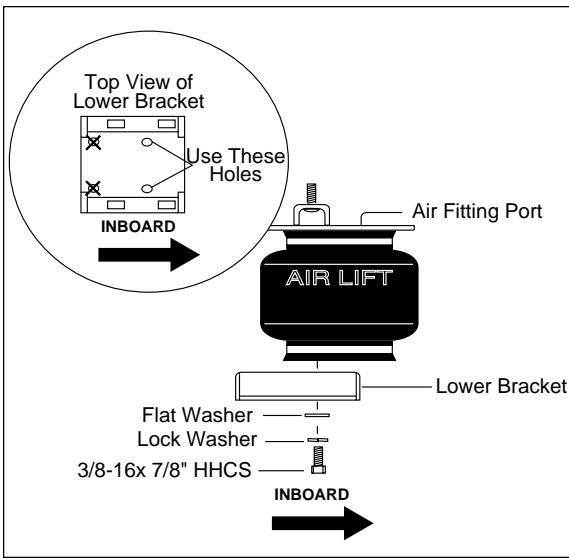
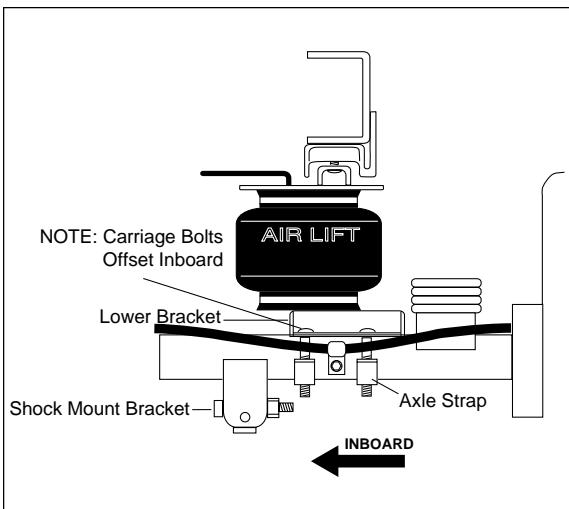

Figure 2
Figure 4
4. Attach the lower bracket to the bottom plate of the air spring using the mounting holes shown in Figure 2. The lower bracket will be offset outboard away from the air fitting (Figure 4). Attach with two 3/8" x 7/8" bolts, flat washers and lock washers. Torque to 20 ft/lbs. Assemble both units.
8. LOOSELY attach the lower bracket and straps around the axle using 3/8" x 3" carriage bolts, flat washers, and lock nuts. Both straps will be attached between the leaf spring stack and the shock mount bracket (Figure 4).
**NOTE for Models with Disc Brakes:** The inside strap on the passenger-side goes between the emergency brake cable bracket and the shock bracket on the axle (Figure 4).